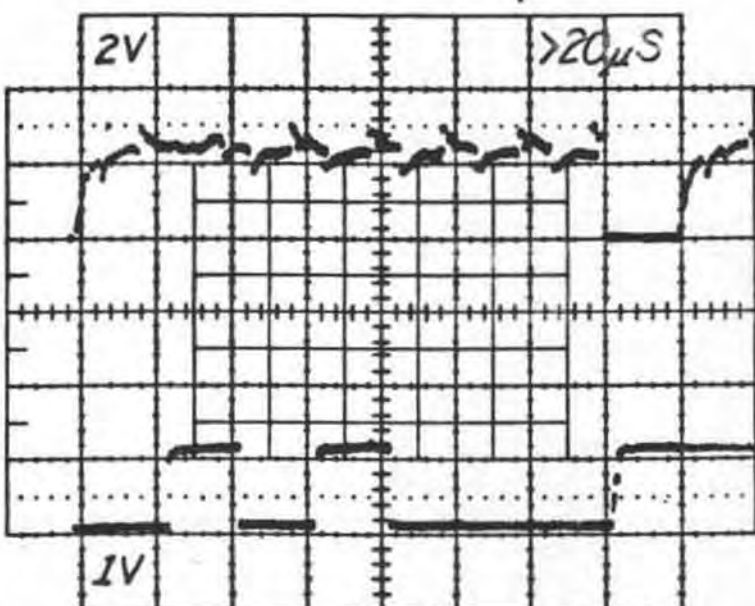

Fig. 3-5
Fig. 3-5 is the same I Bus output, but expanded to show only Word 1 (BV).